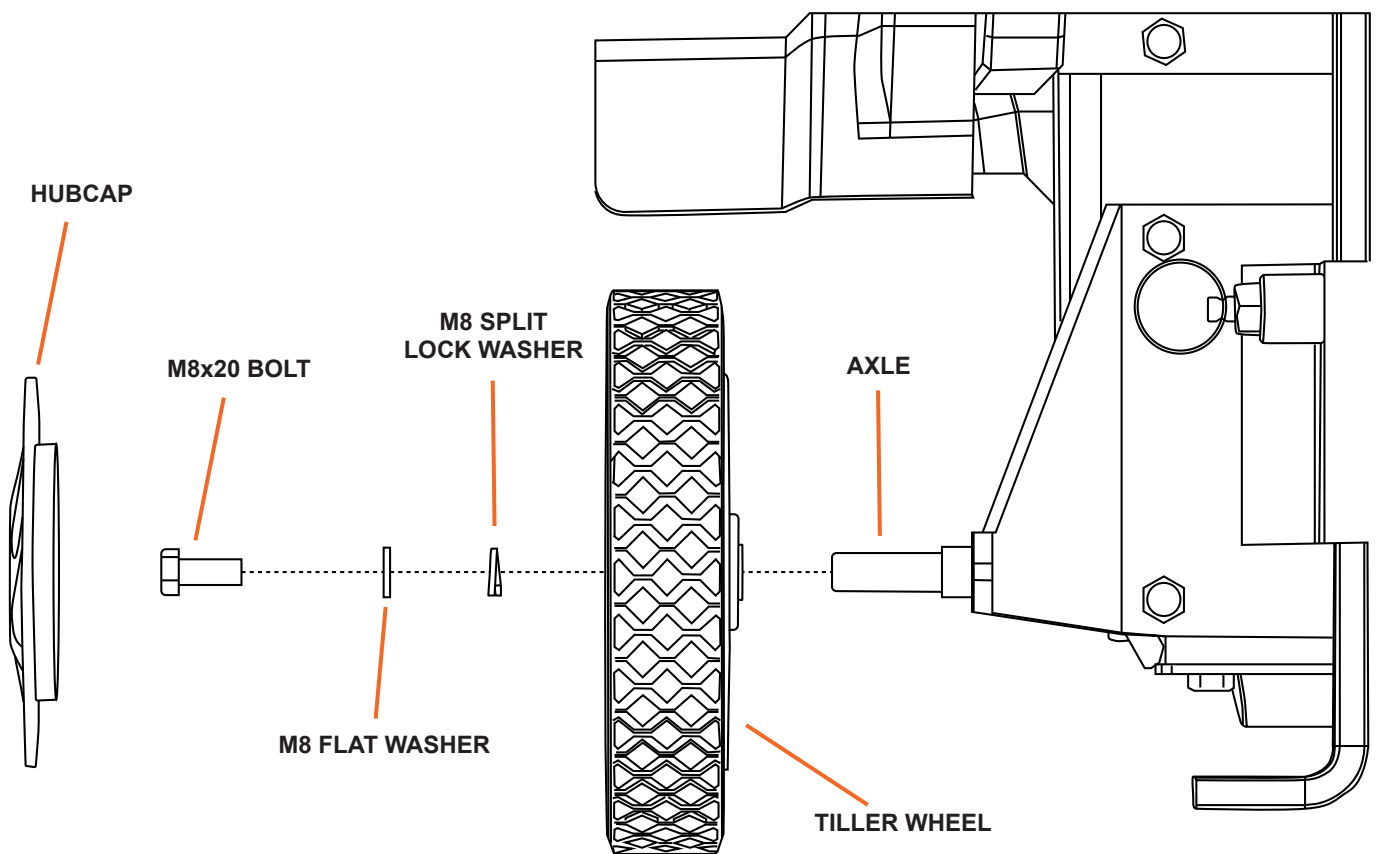

Figure 3
3. Install the wheels using the provided hardware noted in Figure 3.